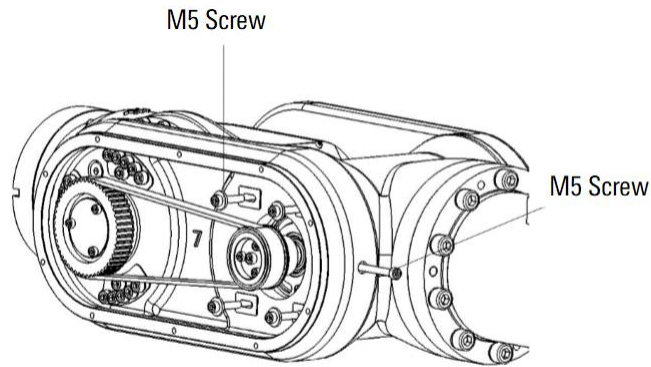

Figure 10-14 Removing the J5 motor flange
- Step5. Remove the tension screw, then remove the J5 motor flange screw and pulley adjustment screw, and use an external hexagonal wrench to remove the M5 screw, as shown in Figure 10-14.